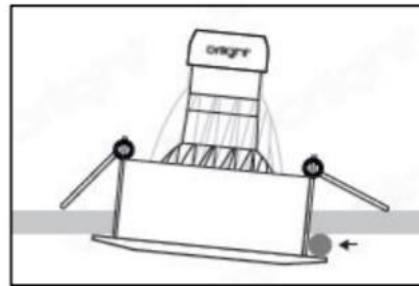

Figure 3.8
- Insert a small batten or pencil into the gap created to hold the bezel away from the ceiling. (Refer to figure 3.8)